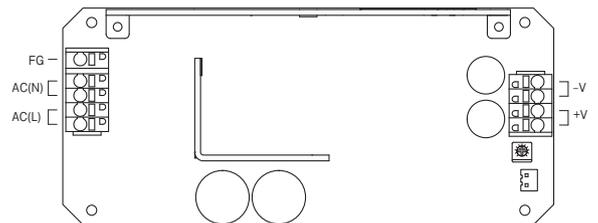
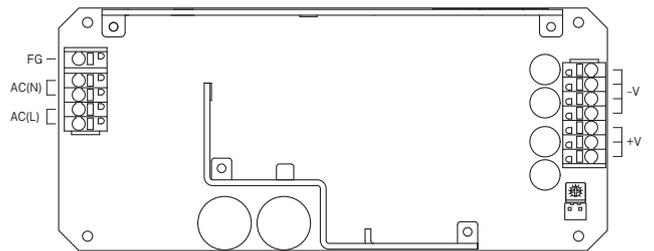

Fig. 7.5 Example of option -T4 (LHP150F)
Fig. 7.6 Example of option -T4 (LHP300F)
- Refer to fig.7.5, fig.7.6 for terminal arrangement.